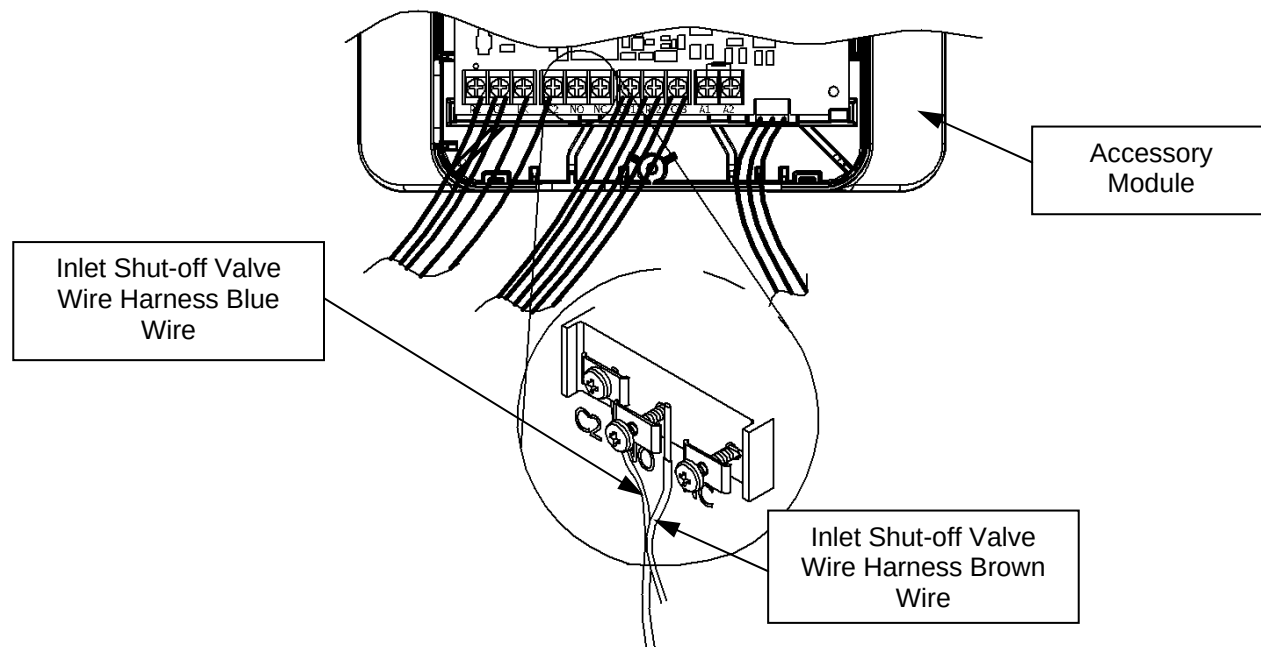

Figure 78
Step 11: Insert the brown wire, from the Inlet Shut-off Valve wire harness, under the screw labeled “NO,” as shown in Figure 78.